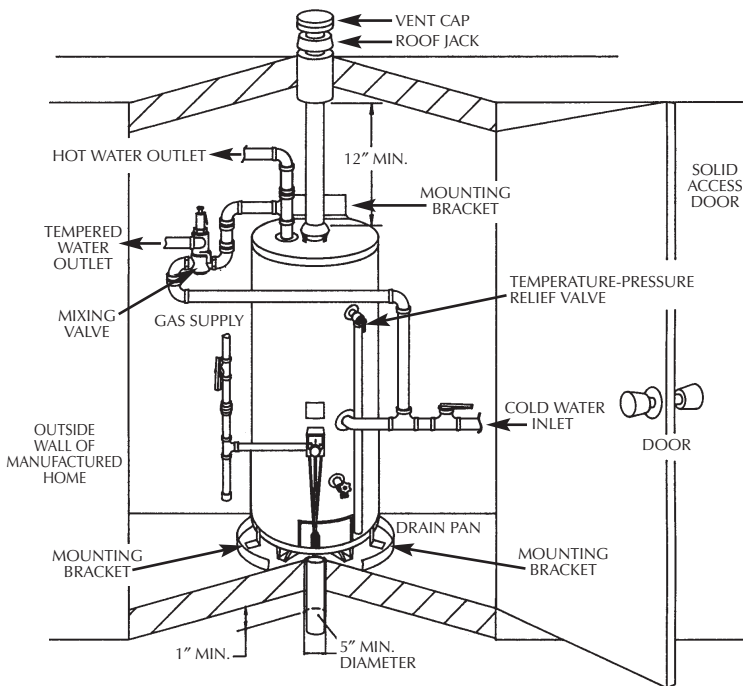

Figure 2
2. An optional enclosure incorporating a solid exterior access door, when a 5 inch or 8 inch diameter, or 20 square inch minimum equivalent free air opening is located in the floor of the enclosure. The opening must be covered by a 1/4 inch wire mesh. (See figure 2, page 6)